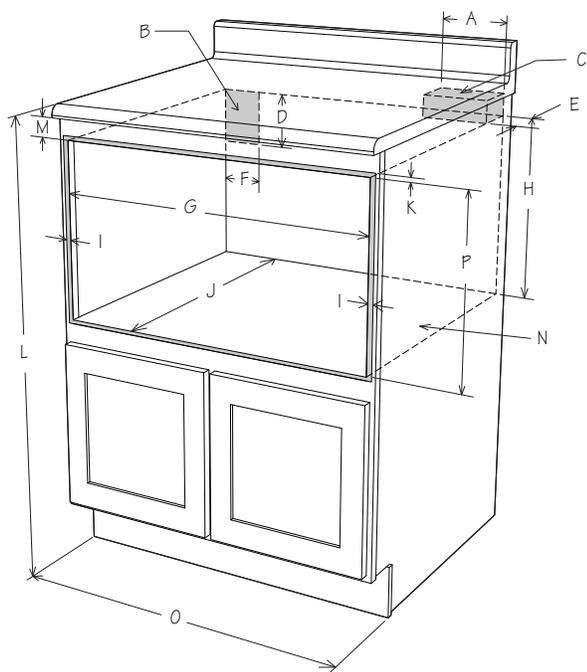

Figure 1
For SAFETY CONSIDERATIONS do not install drawer in any combustible cabinetry, which is not in accordance with the stated clearances and dimensions on pages 3 - 5. See Figures 1 - 7.
- Dimensions that are shown in Figure 1 must be used. Given dimensions provide minimum clearance. Locate electrical outlet in the shaded area in the upper left-hand corner of the cutout. See Figure 10.
Figures 1 and 2 contain measurements for reference when planning the drawer's location.
To reduce the risk of tipping of the drawer, the Anti-Tip block must be properly installed located 14 13/16-inches (376.2 mm) above the floor on which the Drawer Microwave will sit. The 6" (152.4 mm) Anti-Tip block must be provided by the installer. See Figure 1. The Anti-Tip block prevents serious injury that might result from spilled hot liquids.